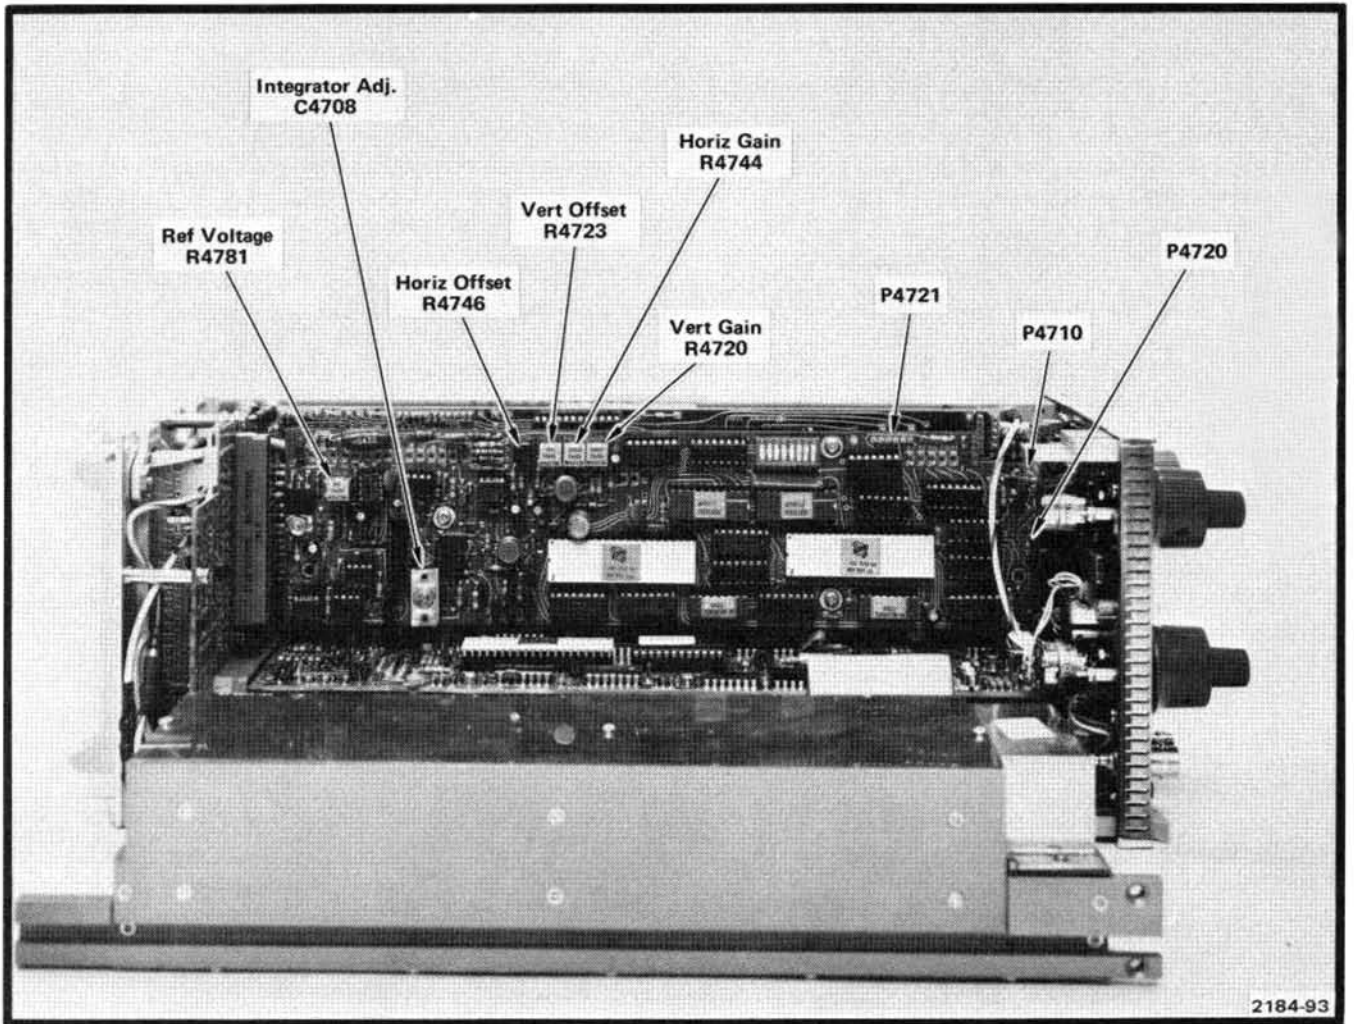

Fig. 4-21. Digital Storage 670-5671-00 test points and adjustments.
c. Connect a digital voltmeter (DVM) between TP 4760 (Fig. 4-21) and chassis ground. Using the DVM, set the reference voltage level to $-2\text{ V} \pm 10\text{ mV}$ with adjustment R4781 (Fig. 4-21).